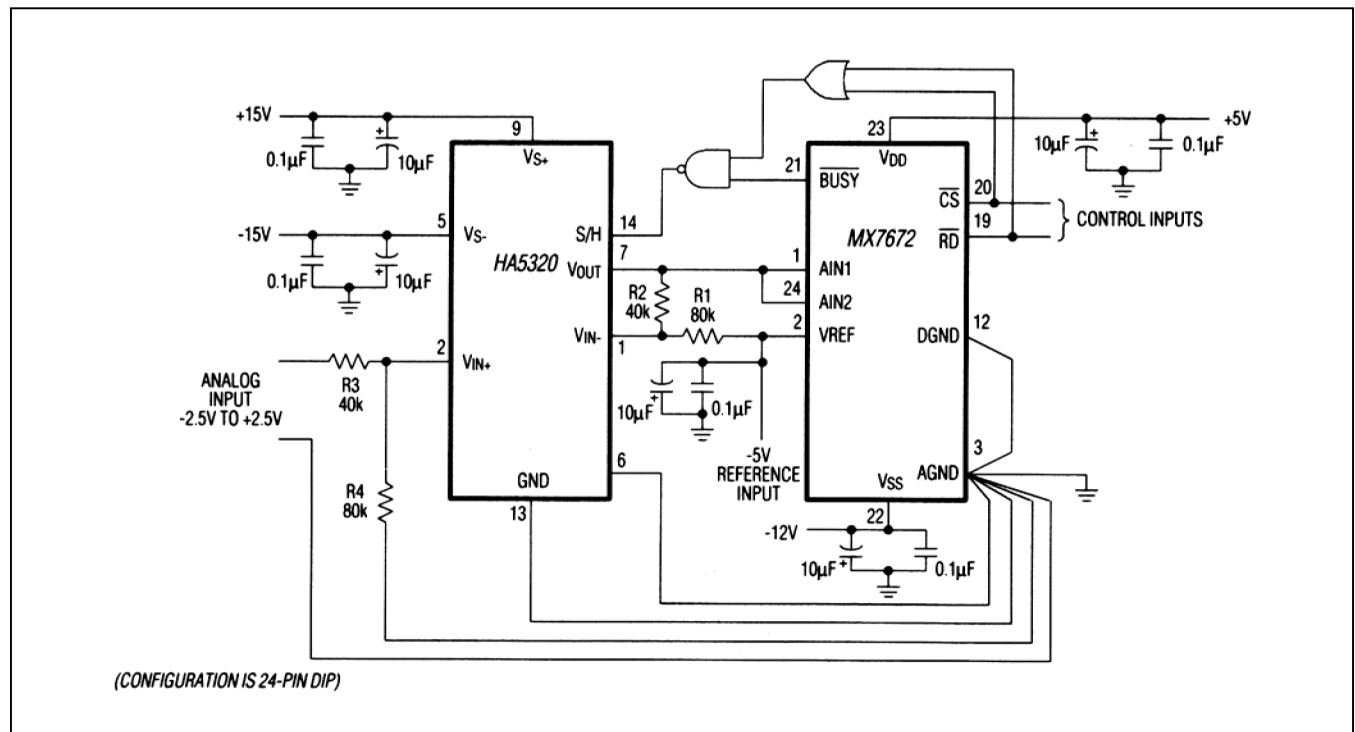

Figure 14. MX7672—HA5320 Sample-and-Hold Interface
**MX7672\_03**—Figure 14 is the MX7672\_03 to HA5320 interface. The maximum sampling rate is 210kHz with a 4MHz clock, which allows a 1.5 $\mu$ s acquisition time. The HA5320 can also be replaced by a HA5330 for higher throughput.